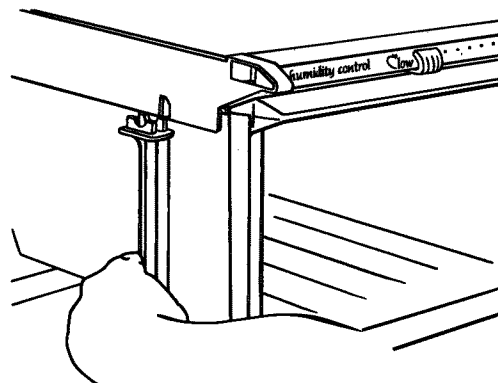

Figure 39
- k. Slide other crisper system to left* and slide out. See Figure 39.